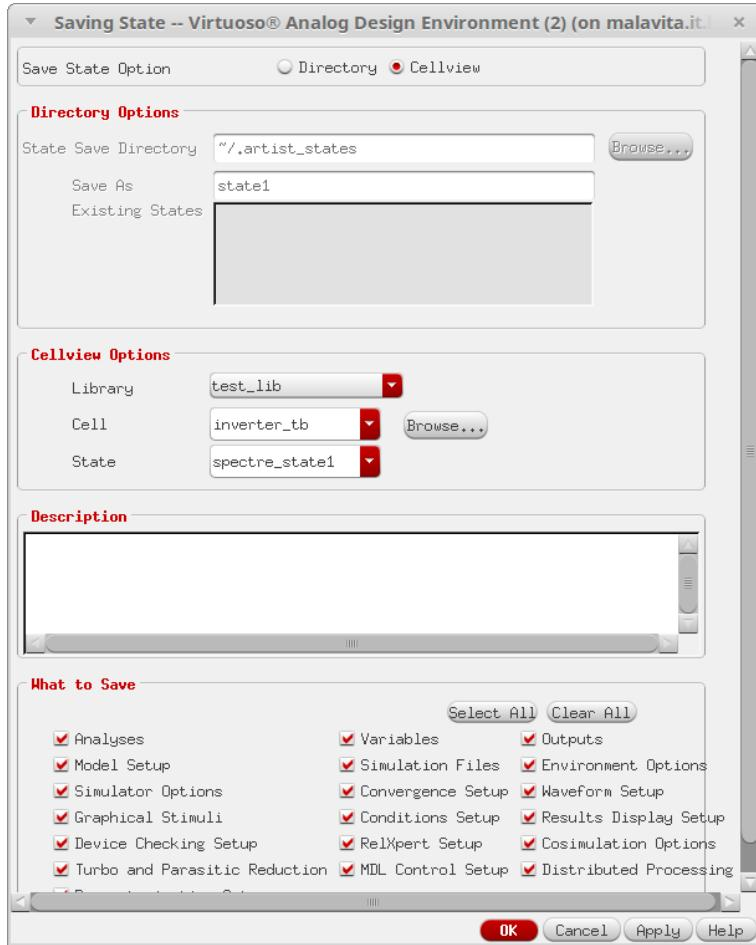

Figure 30: Save current ADE state
7. At this point it would be wise to save the simulation setup so that you don't have to go through the same procedure the next time you simulate the design. Click on Session→Save State. Set the Save State Option to Cellview instead of Directory and hit OK (see Fig. 30).